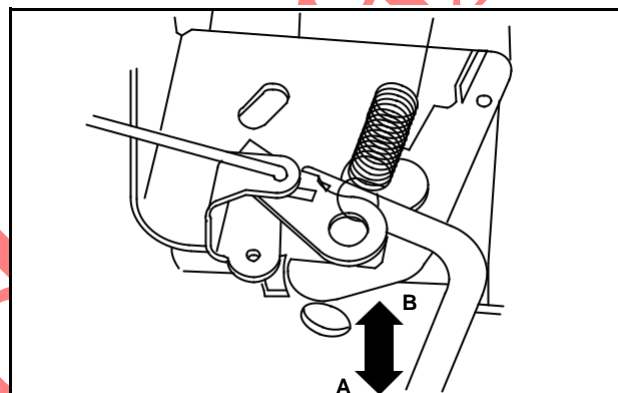

Fig. 55
2. Start engine and adjust Top No Load RPM by turn-ing bending tang to decrease (B) or increase (A), Fig. 55.